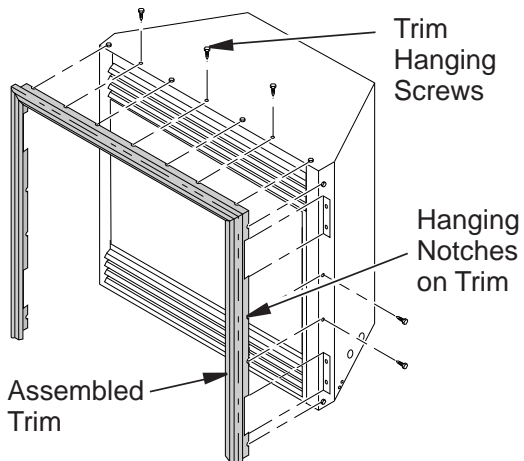

Figure 7 - Attaching Perimeter Trim to Fireplace
8. Tighten trim hanging screws (#10 x 6.25 shoulder) into holes in cabinets. Place the assembled trim onto fireplace cabinet. Align hanging notches on trim with hanging screws on side of fireplace (see **Figure 7**). Push trim firmly into place, sliding hanging notches over hanging screws.
9. Install trim after final finishing and/or painting of wall (see *Figure 7, Page 10*).